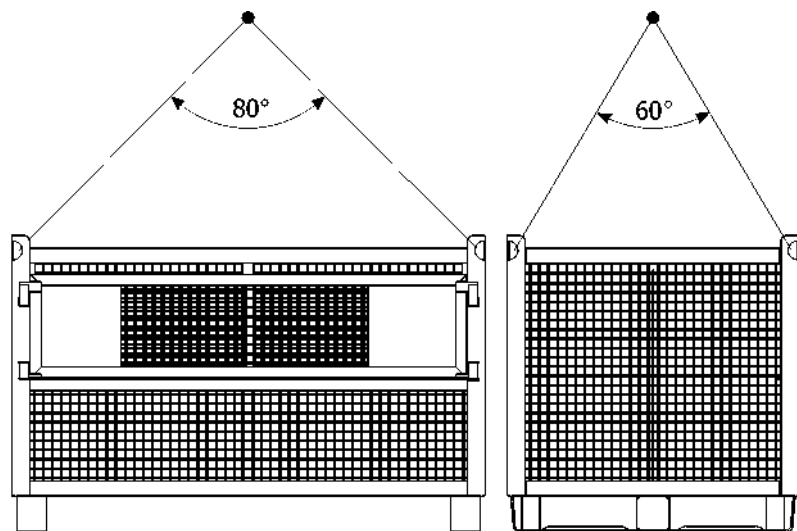

Fig. 2 Lifting the baskets using slings
2. Use of the lattice box (Fig. 2 and 3)
4. Angle between slings max. 80° (Fig. 2).